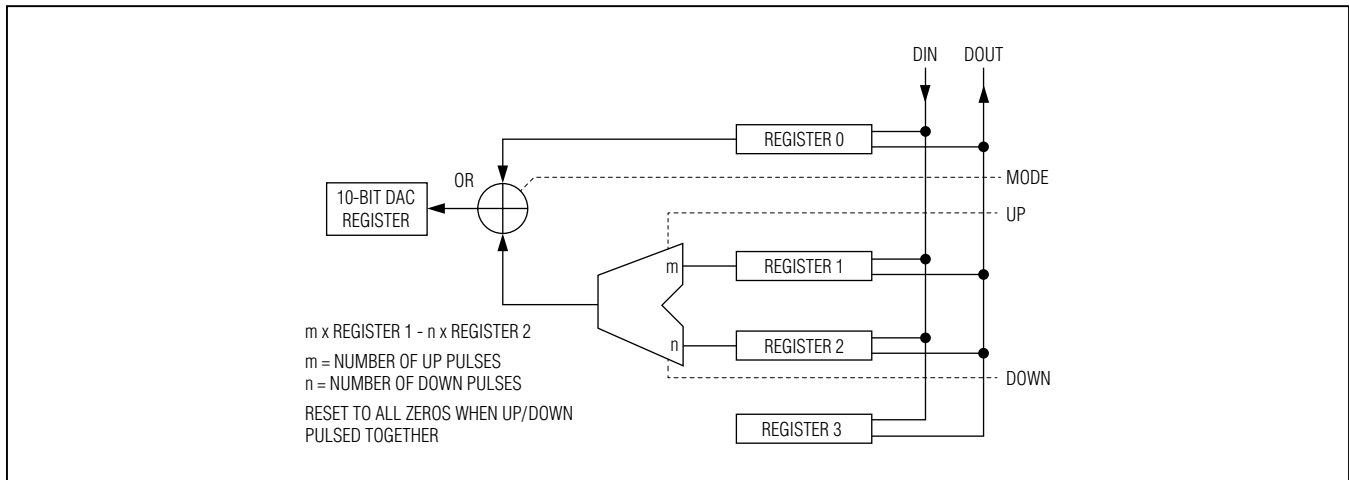
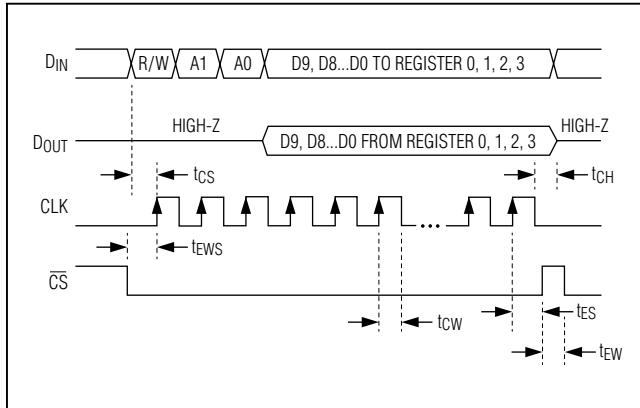
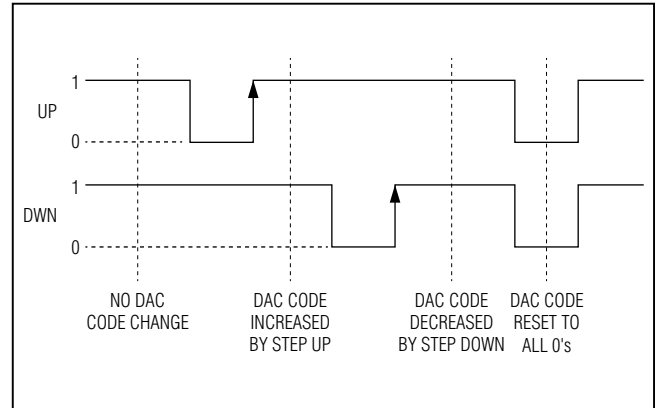

Figure 1. Register Configuration Diagram
Figure 2. SPI Timing Diagram
Figure 3. UP DWN Control Diagram (Mode = 1)
Figure 1 shows the configuration of the internal registers of the device, and Figure 2 shows the timing of the SPI bus. Register 0 is used to set the DAC code to the desired value, register 1 selects the step-up code, and register 2 selects the step-down code.
in Figure 1. This is applied to the 10-bit DAC register that drives the DAC. To increase (decrease) the code using the UP (DWN) pin, the DWN (UP) pin must be high and the UP (DWN) pin should be pulsed low to high. The part is designed to produce no wraparounds when using UP and DWN stepping, so the DAC code maxes out at 1023 or goes no lower than 0. See Figure 3 for the UP and DWN control operation.
The device can be controlled with a 4-wire SPI-compatible serial interface. Figure 2 shows a timing diagram for the interface. In the write mode, a 13-bit word is loaded into the device through the DIN pin with  $\overline{CS}$  set low. The first bit of the word in the write mode is 0, and the next two bits select the register to be written to. See Table 2. The next 10 bits contain the data to be written to the selected register. After the 13 bits are shifted in, a low to high  $\overline{CS}$  command is applied and this latches the 10 bits into the selected register. The entire write command is ignored if  $\overline{CS}$  is pulsed low to high before the last data bit is successfully captured.